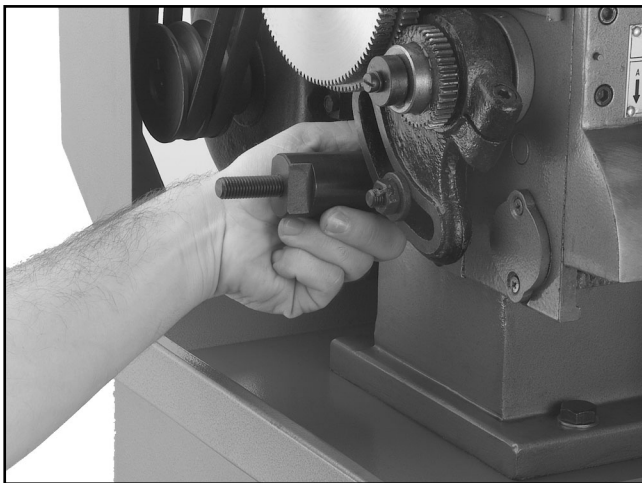

Figure 3. Installing mounting stud.
2. Install the replacement mounting stud as shown in **Figure 3**.